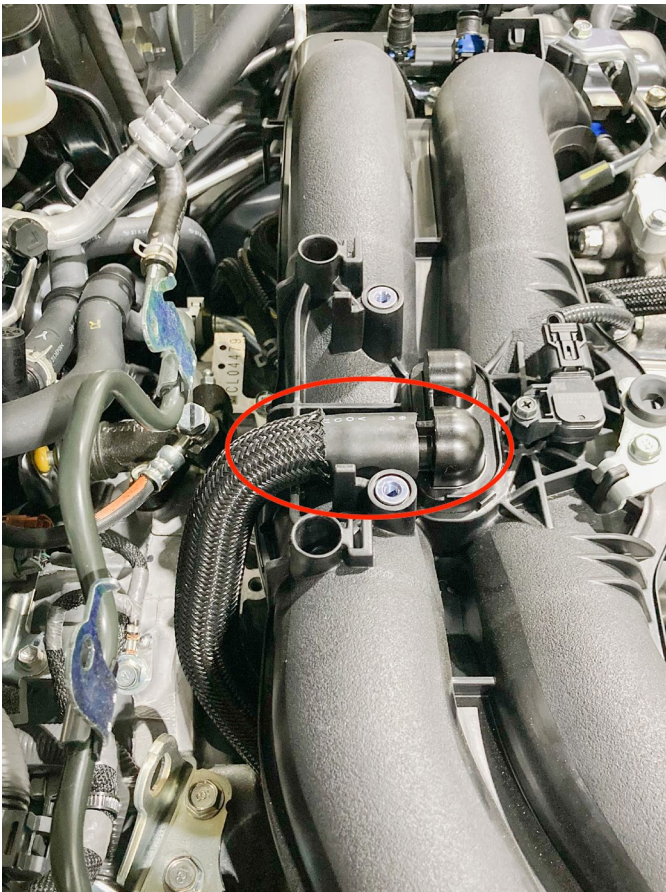

Figure 8
7. Remove the PCV hose that connects to the intake manifold and below to the PCV fitting. (Fig 8)